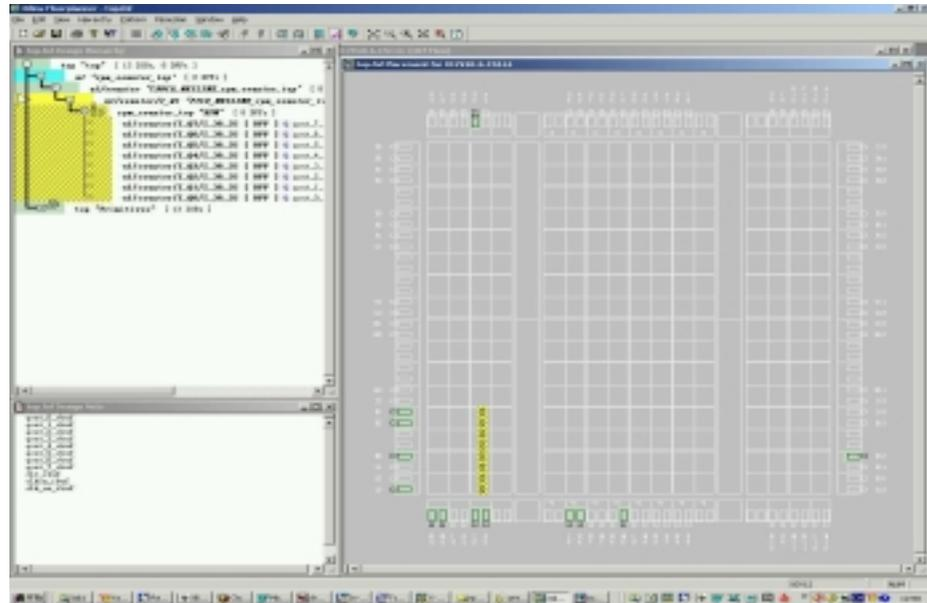
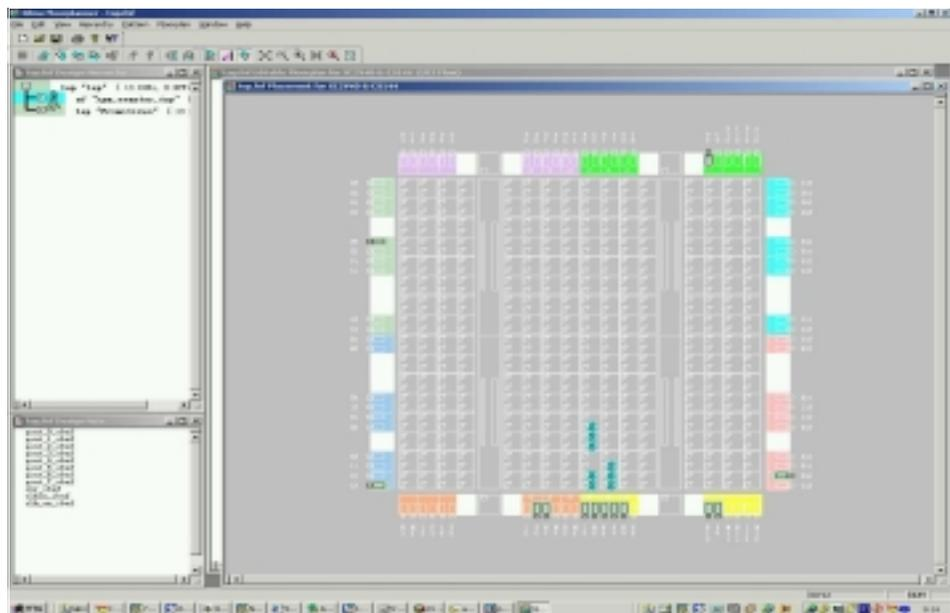

Figure 4: Placed RPM View in Floorplanner (NGDBUILD Flow)
Figure 5: Placed RPM View in Floorplanner (Post Par Flow)
- Continuing from the previous section remove the source file, rpm_counter_top.vhd (NGDBUILD flow, Figure 4) or rpm_couter_top.edn (Post PAR flow, Figure 5), from the project.